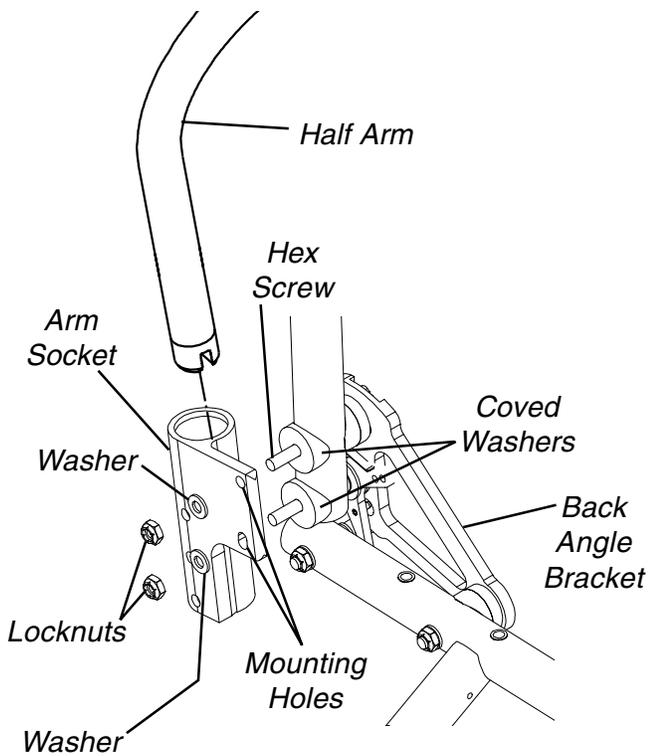

FIGURE 9 - INSTALLING THE HALF ARM SOCKET
**INSTALLING THE HALF ARM SOCKET (FIGURE 9)**
1. Remove the two (2) locknuts and washers securing the back angle bracket to the back cane.
2. Position the half arm socket onto the two (2) hex screws.
3. Install one (1) washer onto each hex screw.